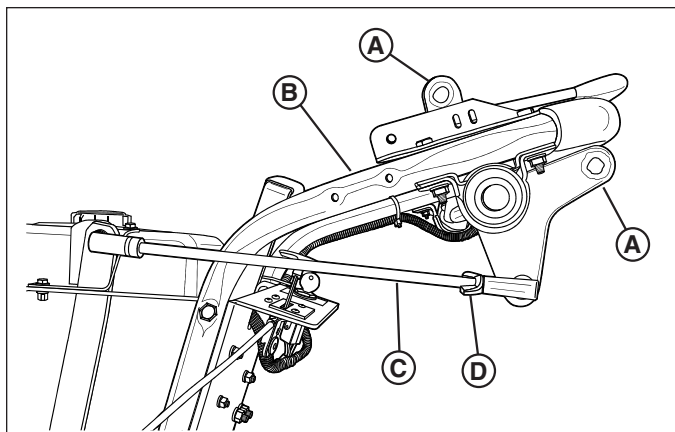

Figure 16a - Travel Controls Adjustment
1. The Travel Control engagement bars (A, Figure 16a) should be an equal distance from the Upper Handle Bar. If they are not, adjust their position.
2. Loosen the wing nut locknut (D) and rotate control rod (C) until engagement bars are properly adjusted.